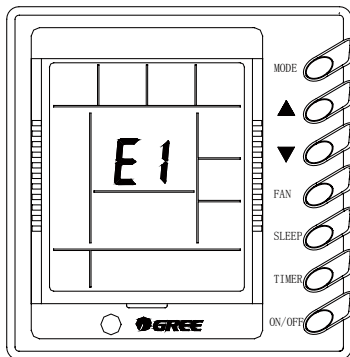

Fig.19
6.7 Malfunction display (Fig.19)
★ When a malfunction happen during the operation, the environment temperature display area will show the error code. As shown in Fig.19, it shows the compressor high-pressure protection.